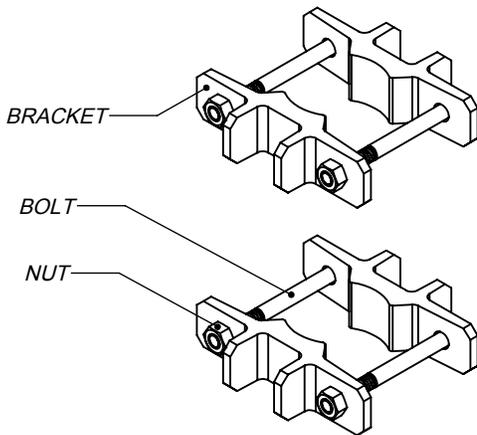
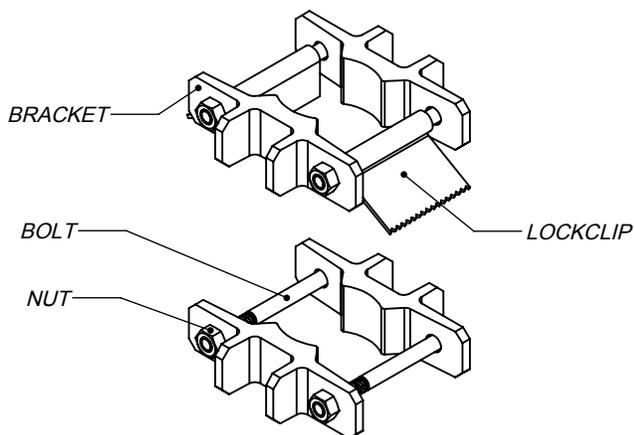
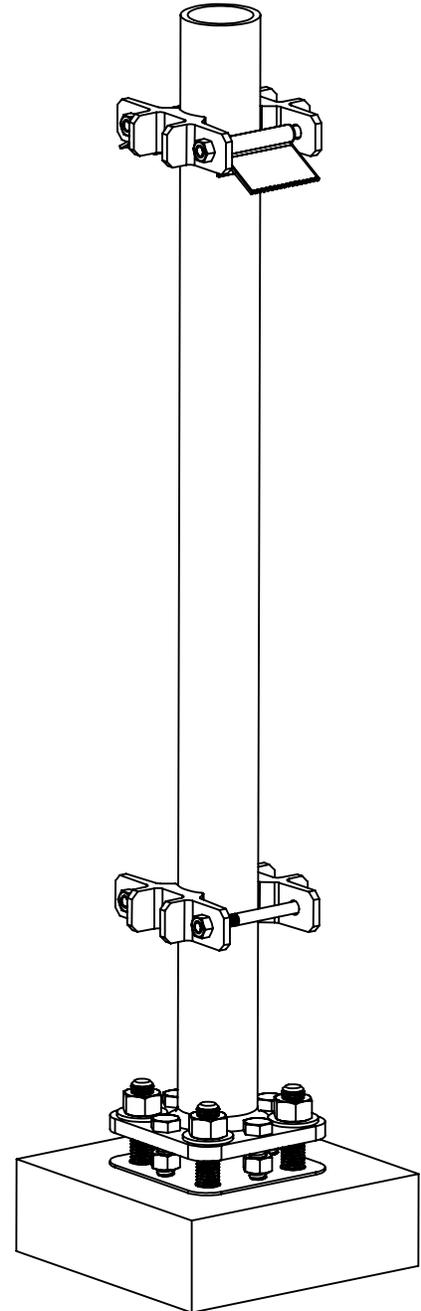

Figure 5A
Figure 5B
Figure 6
1) Assemble each bracket set as shown in Figure 5A if not using lockclips or Figure 5B if using lockclips. When using lockclips, they should be used on the top bracket set as shown in Figure 6. Leave the nuts loose so that the bracket sets may fit onto the post mount.
2) Install the bracket sets at the locations shown in Figure 6. This should be done by sliding each bracket set down onto the post mount, locating it at the appropriate height and orientation, and tightening the nuts until secured.